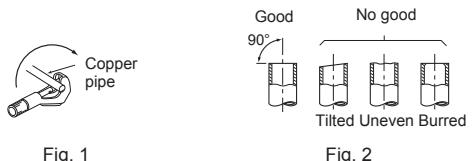

Fig. 1
- 1) Remove the electrical cover (1).
- 3) Attach the conduit pipe to the conduit plate with the lock nut. The indoor/outdoor unit connecting wire ⑩ appearing from the inside of conduit pipe should be less than 7/8 in. (23 mm). (Fig. 1)
- 1) Cut the copper pipe correctly with pipe cutter. (Fig. 1, 2)